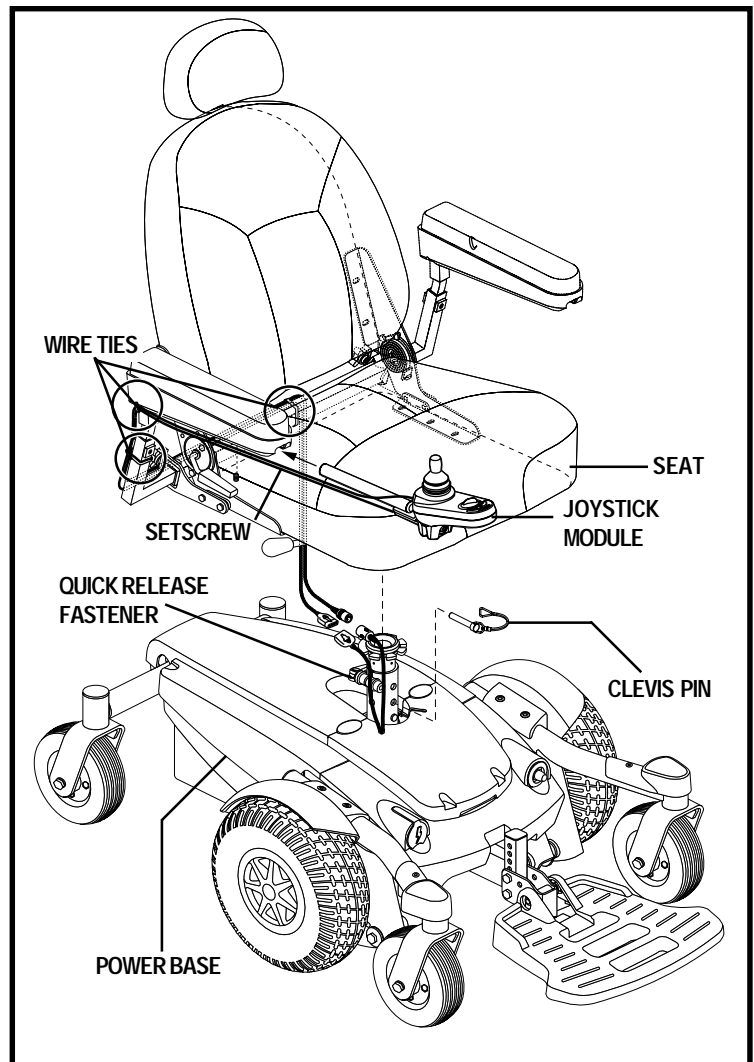

Figure 11. Seat and Controller Assembly
1. Slide the seat down onto the power base. See figure 11.
3. Install the joystick module into one of the armrests. Tighten the setscrew with the supplied hex key. See figure 11.
4. Lift the armrest straight up, then route the joystick module cable and secure with wire-ties as shown in figure 11.
10. Route the joystick module cable along the seat frame and secure with wire ties. See figure 11.